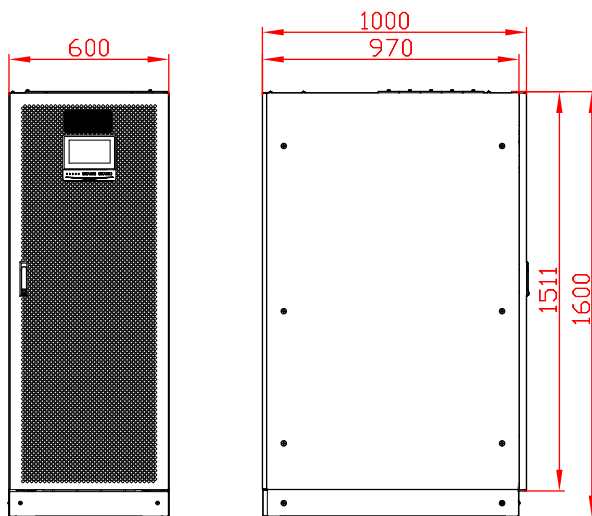

Figure3-16 Size of IST7-160, IST7-200
- Step 1 Determine and plan the installation position according to the UPS size (as shown in Figure3-16) and installation clearance requirement (see **3.2.3 Installation**).